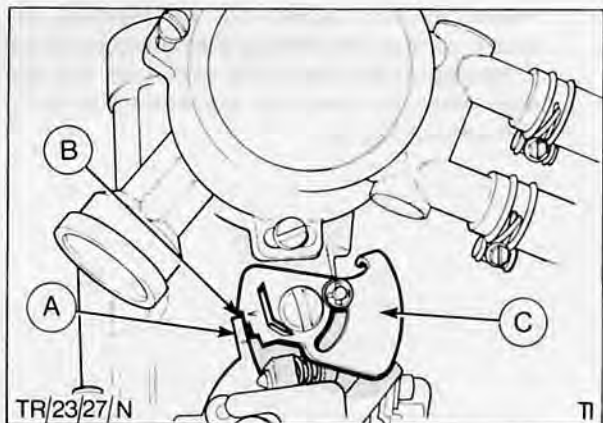

Fig. 58. Auto-choke mechanism set in the 'fast idle' position ('V' mark lined up with top of throttle lever)
- (iv) Manually push the fast idle cam downwards on to the first step. ('V' mark position), Fig. 58.
- (vi) Adjust as required by bending tag on throttle lever, Fig. 58. To bend tag either use a pair of pliers, or to make adjustment easier make up a special tool as shown on page 11, Fig. 21.